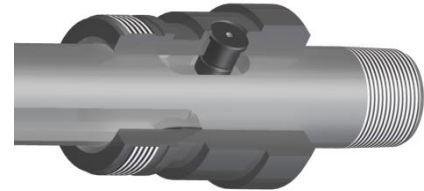

Fig. 6
L-4.21) Align holes in J-pin body (23) with lower landing in slot in J-slot mandrel (20). Install J-pins (15) into J-pin body (23) (Fig. 6).